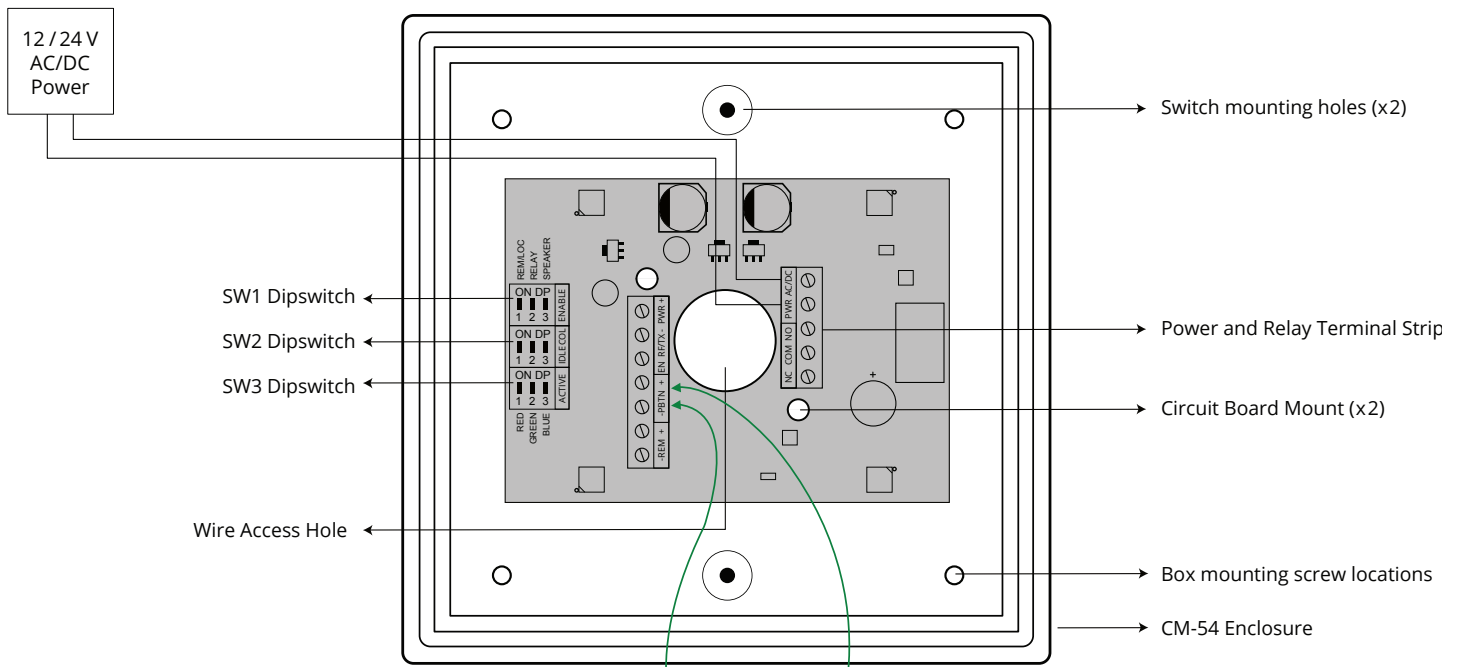

Figure 6.2 - CM-54i Wiring Diagram (Typical)
2. Drill the four required mounting holes. (11/64" min.) There are four indents provided on 3" centers for your convenience. (See Figure 6.2)